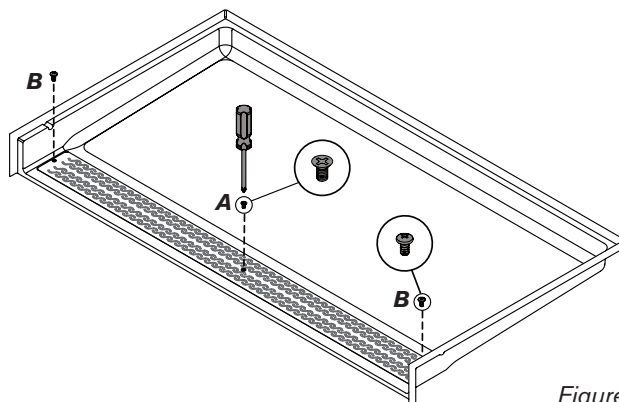

Figure 13
When all mounting holes are aligned, install the flat head screw in center hole (A). **Do not tighten.** Then install the two pan head screws in each of the end mounting holes (B). Do not tighten. Once all screws are in place, tighten screw in center first, then tighten screws in the end holes. (Figure 13)